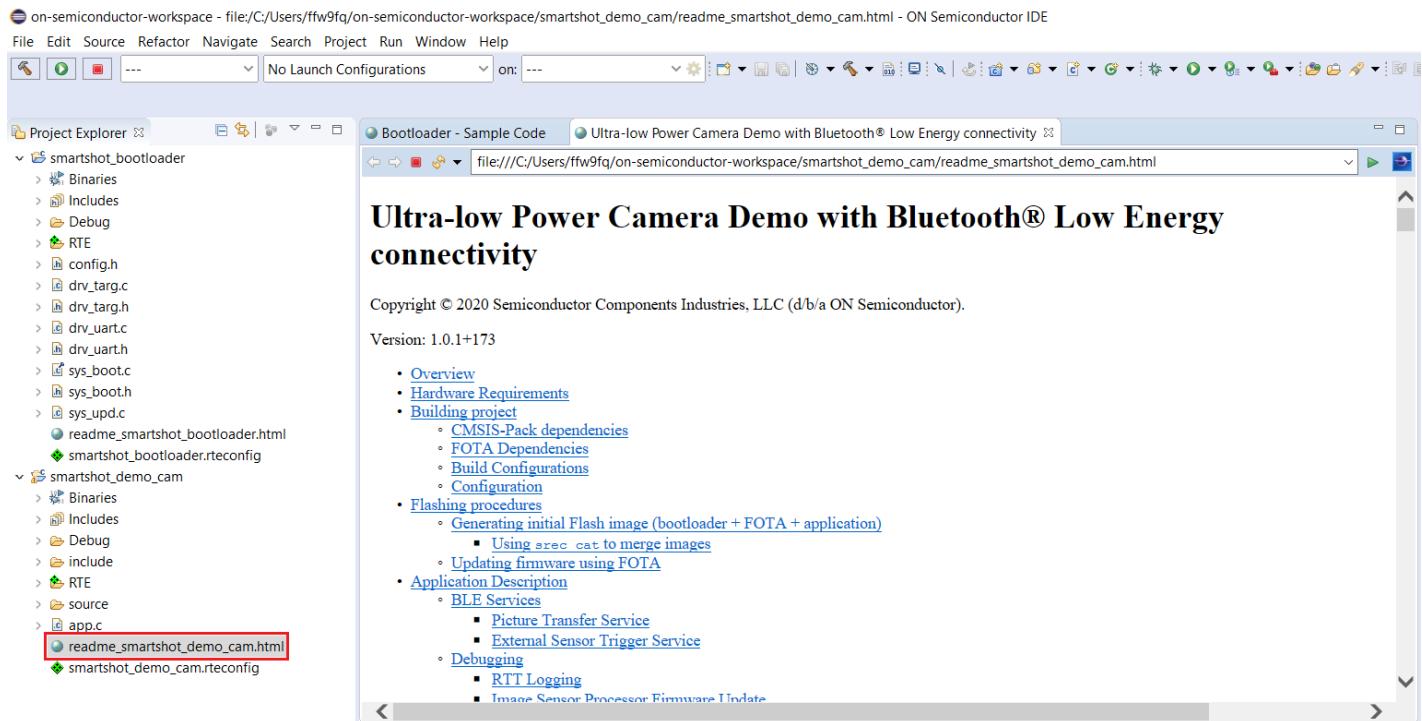

Figure 15. SmartShot source code and documentation inside CMSIS
1. *SmartShot application software*: it provides the source code and documentation for actual Smartshot application running on RSL10 (Fig.15)